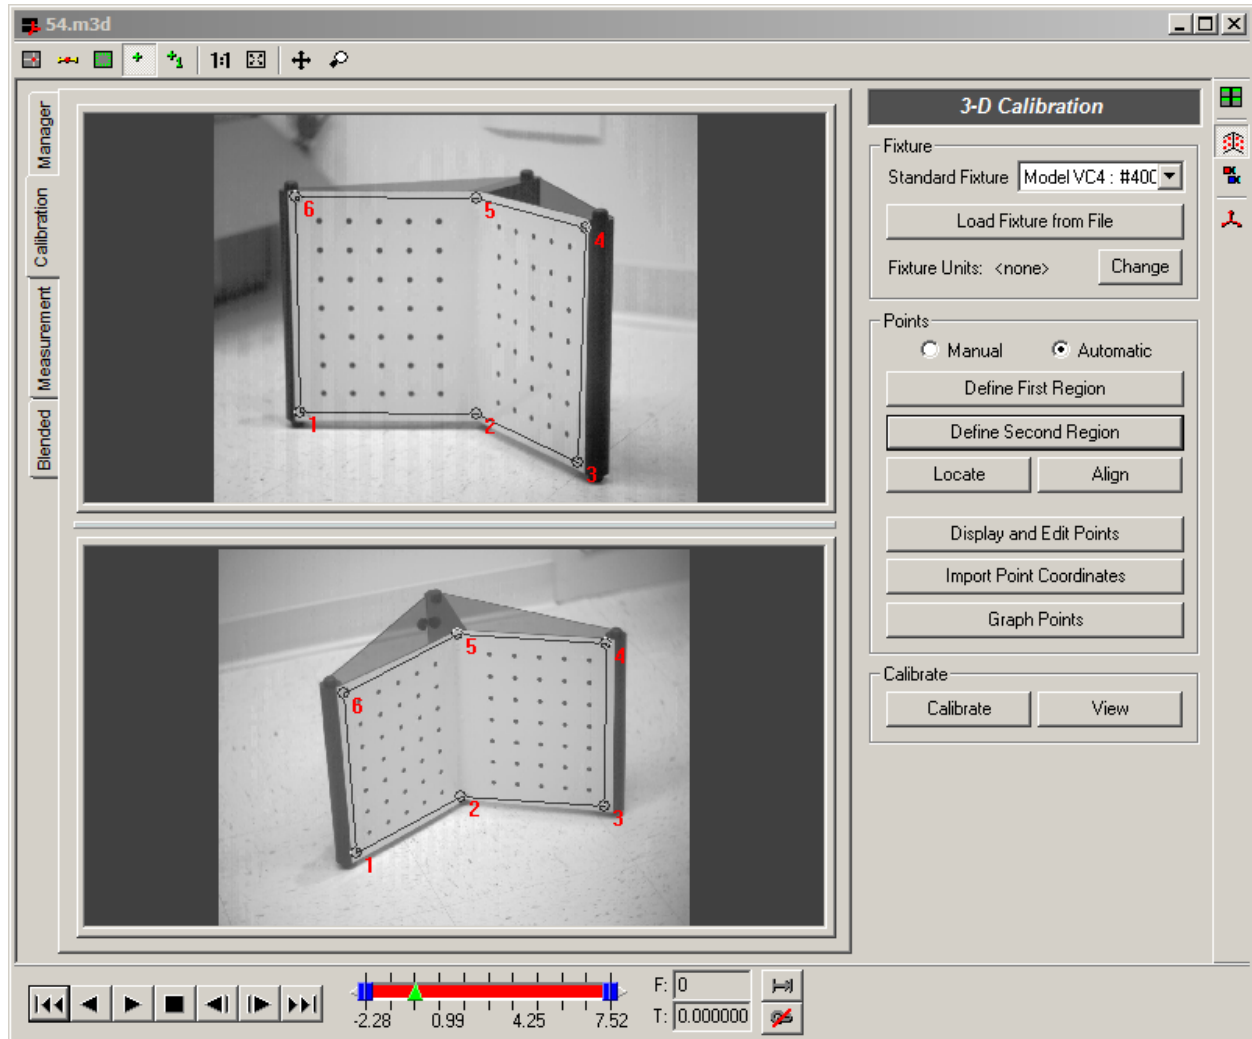

Figure 4. Point definition for first and second regions
- Click the **Define First Region** button. A message appears prompting you to click on the 6 corners of the region that you wish to select. Start at the lower left corner, and click six points counter clockwise around the perimeter of the top calibration fixture image. Make sure that the region encompasses all of the points on the fixture, and that the points are clicked in the order shown in Figure 4.